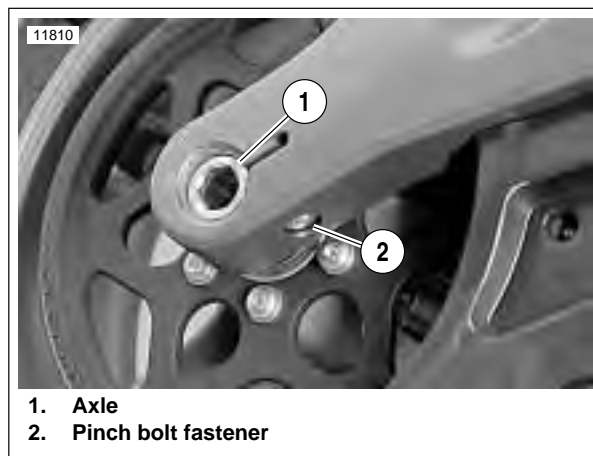

**Figure 2-24. Anti-Seize Lubricant Location**
4. See Figure 2-24. Coat the axle with ANTI-SEIZE LUBRICANT.